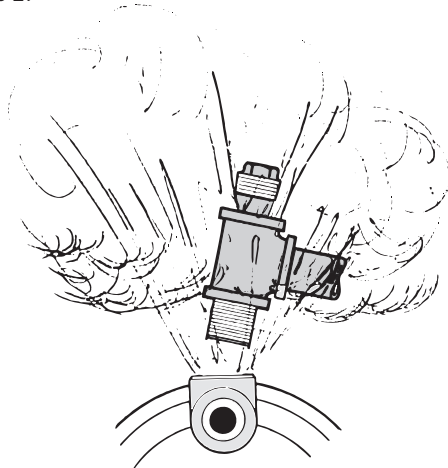

Figure 2 – Do Not Run Pump With Outlet Shut Off
- ◆ When using a garden hose as a discharge line, do not run the pump with the hose outlet or the nozzle closed. The hose or the nozzle may burst from excessive pressure. See Figure 2.